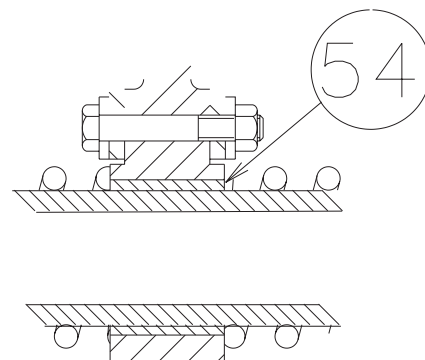

Figure 15
- 4.7.2 Refer to Table 10 to determine if the reaction plate bushings (54) (see figure 15) require replacement. See section 7.0 for parts.
Original Reaction Hole Bushing Diameters In Pressure Plate and Reaction Plate (Item 53 on Figure 15)